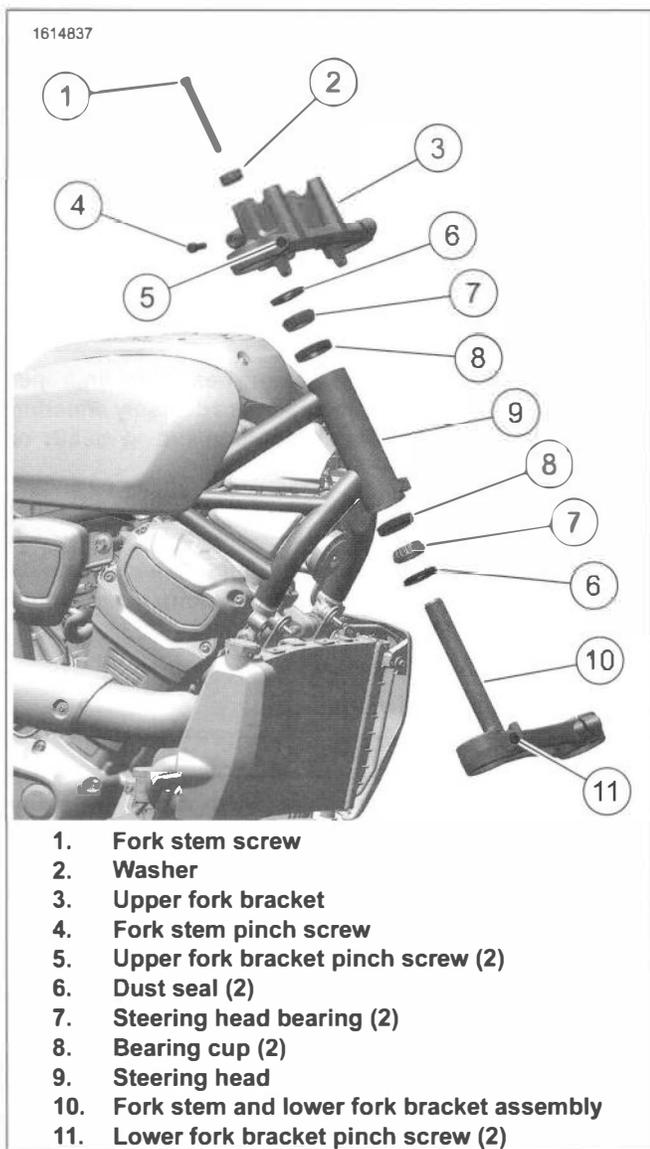

Figure 3-64. Fork Stem and Bracket Assembly
1. See Figure 3-64. Remove upper fork bracket assembly.
- a. Remove fork stem screw (1).
- b. Remove washer (2).
- c. Loosen fork stem pinch screw (4).
- d. Remove upper fork bracket (3).
2. Inspect fork stem and lower fork bracket assembly (10). Replace as necessary.
2. Remove fork stem and lower fork bracket assembly (10) from steering head (9).
1. See Figure 3-64. Inspect steering head bearings (7) and bearing cups (8) for:
1. See Figure 3-64. **If removed:** Install **new** bearing cups (8) using bearing installer.
1. See Figure 3-64. Install front fork stem and lower fork bracket assembly.
- a. Install fork stem through steering head (9).
- b. Install **new** upper steering head bearing (7) and **new** dust seal (6).
2. Install upper fork bracket (3).
1. See Figure 3-64. **If replacing upper fork bracket:**
- a. Install washer (2) and fork stem screw (1). Tighten.